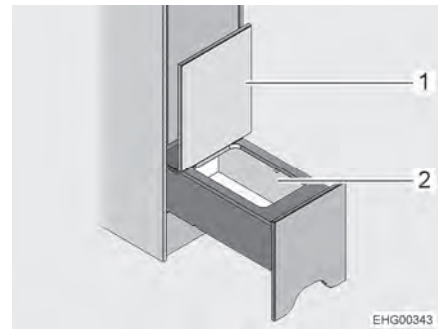

Fig. 80 Storage compartment
- Fold the lid (Fig. 80,1) up. The storage compartment (Fig. 80,2) is accessible.